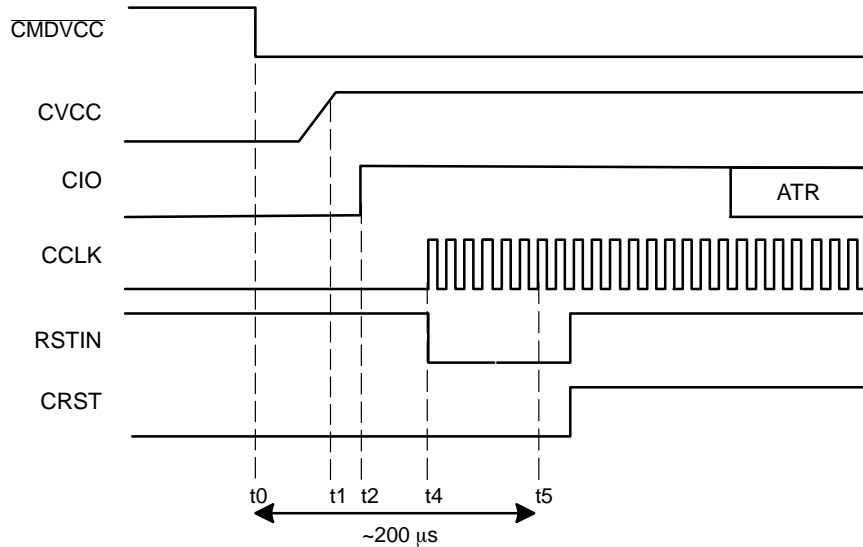

Figure 5. Activation Sequence – RSTIN Mode (RSTIN Starting High)
The clock can also be applied to the card using a **RSTIN mode** allowing controlling the clock starting by setting RSTIN Low (Figure 5). Before running the activation sequence, that is before setting Low \overline{CMDVCC} RSTIN is set High. The following sequence is applied:
- Between t_2 (Figure 5) and $t_5 = 200\ \mu\text{s}$, RSTIN is reset to LOW and CCLK will start precisely at this moment allowing a precise count of clock cycles before toggling CRST Low to High for ATR (Answer To Reset) request.